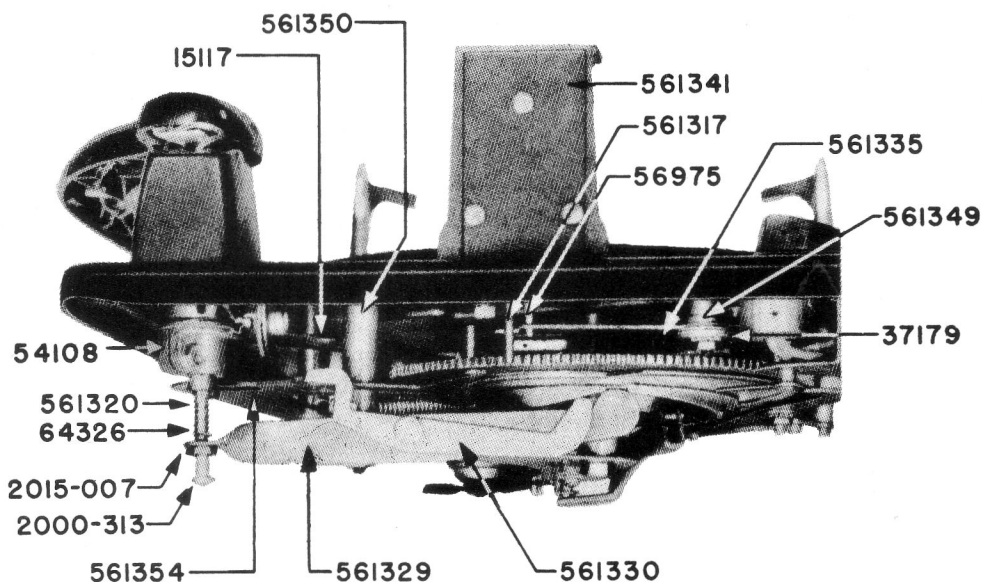

FIGURE 10 TONE ARM LIFT LEVER
The Needle should drop on the record at a position equi-distance from the outer edge and the first playing groove of a standard record. Make sure the changer is in playing position; that is, the Tone Arm has moved over so the Needle is on the record. To make adjustment for 10-inch records, loosen the Tone Arm Crank set screw and move the Tone Arm Crank (54108) clockwise to move the needle out. When making this adjustment, be careful not to disturb Friction Trip adjustment. After the 10-inch setting has been properly made and the set screw tightened, the 12-inch landing will usually be correct. If not it will be necessary to slightly bend the Tone Arm Return Lever (561354) near the point where it touches the 12-inch interceptor Shaft (561317), see fig. 10. In both adjustments, the Record Shelf must be in the corresponding 10-inch or 12-inch position.
6. TONE ARM HEIGHT See Fig. 10